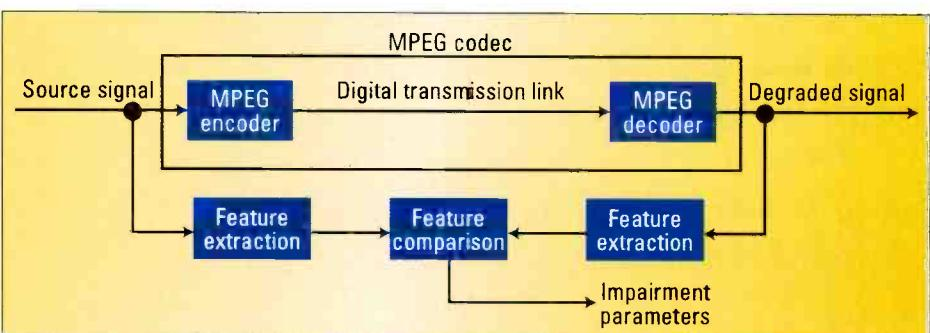

Figure 2. Feature extraction test setup
- **Feature extraction method:** As shown in Figure 2 on page 26, this approach extracts a reduced amount of data from the input signal and compares it with a similarly reduced amount of data extracted from the degraded signal obtained at the output of the MPEG codec. The test equipment compares the extracted “features” and generates an impairment measurement result. The input